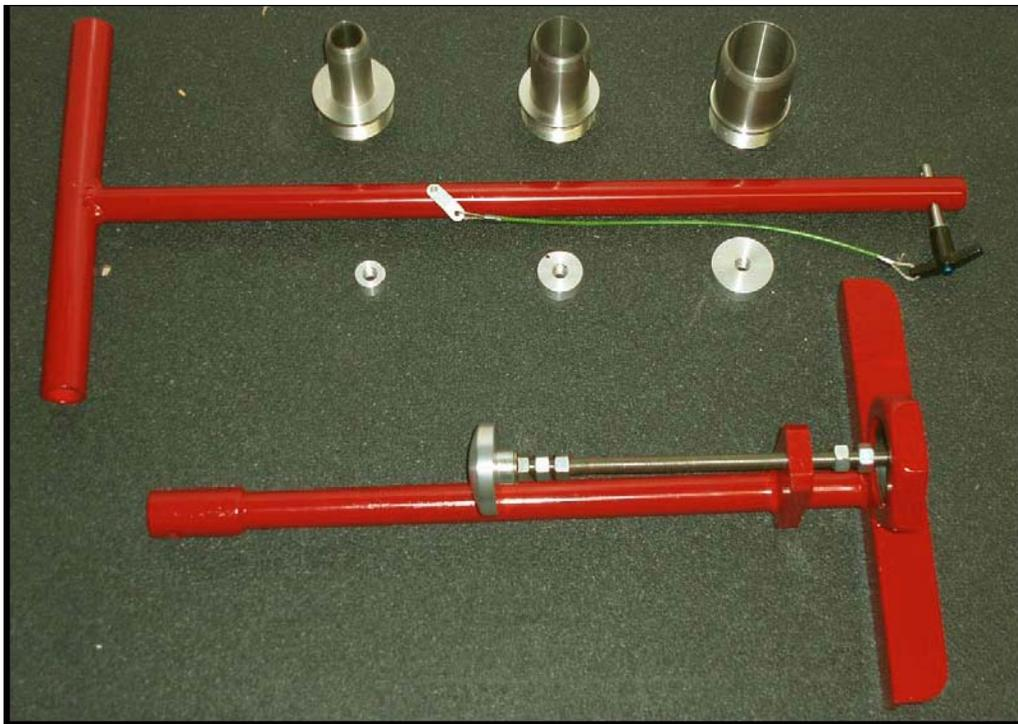

Figure 1. The CRREL Multi-Increment Sampling Tool.
The CMIST sampling tool is designed to facilitate the collection of sample increments of a given volume in cohesive soils. Its basic parts are a lightweight aluminum handle, a rugged carbon steel base with a combination depth-control / increment-ejection pusher mechanism, and interchangeable stainless steel (SS) bits (Figure 1). It disassembles easily for packing and transport and will fit in most 50-L (12-gal) coolers or a 36- x 56-cm shipping container (Rubbermaid ActionPacker Model 1172). Component sizes and weights are given in Table 1. (See Appendix A, Table A1, for a parts list for both tool and supporting equipment.)